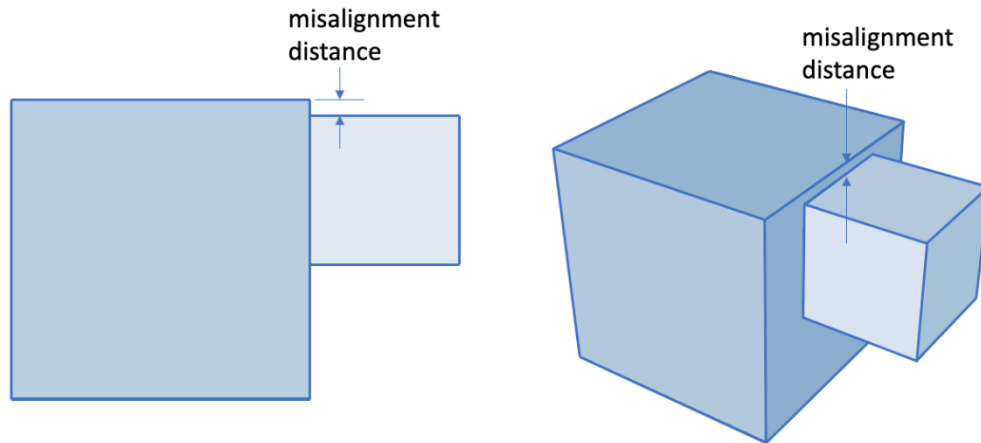

Figure 15. Volume Misalignment Example
- Volume Misalignments** - Misalignments are caused when neighboring volumes touch without overlap, but a small distance between neighboring vertices, curves or surfaces is identified. Figure 15 shows an example of a misalignment. Misalignments can result in sliver surfaces and bad element quality if not resolved prior to imprinting and merging. The **Volume Misalignments** diagnostic test will list pairs of volumes that are misaligned. Expanding a volume pair will reveal entity to entity misalignments that were detected between the pair. Three categories of misalignments will be displayed, namely: vertex-vertex, vertex-curve and vertex-surface ordered by their misalignment distance. These indicate